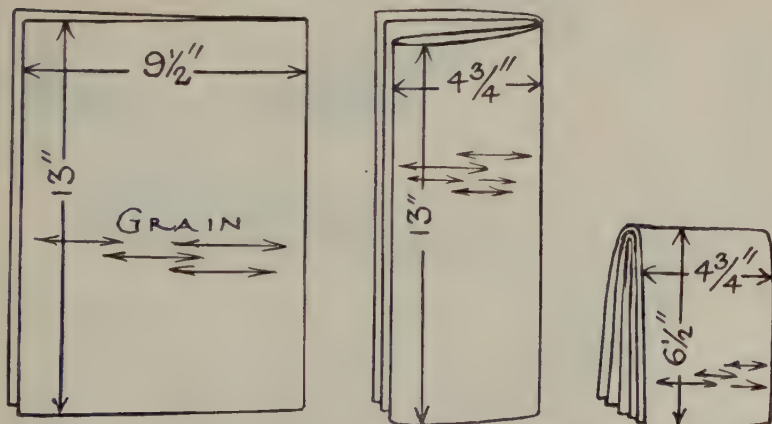

FIG. 226—DIAGRAM SHOWING METHOD OF FOLDING 13" x 19" SHEETS TO OBTAIN 16 PAGE SECTION 6 1/2" x 3 3/4"
3. Fold each 13" x 19" sheet, in a new manner (see Fig. 226) and obtain a 16 page *oblong* section, which when folded is $6\frac{1}{2}"$ long and $4\frac{3}{4}"$ wide.